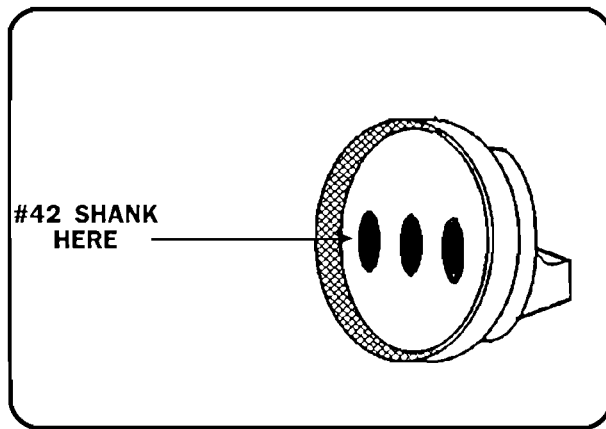

Figure 80
3. To check both 3 way connector for PRNDL and safety nuetral switch, use a #42 drill bit or a .0935 guage. See figure 80.